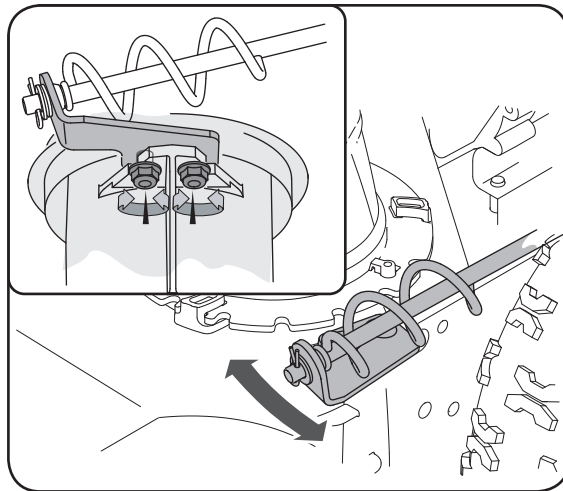

Figure 6
1. loosen the two nuts which secure the chute bracket and reposition it slightly. See Figure 6.